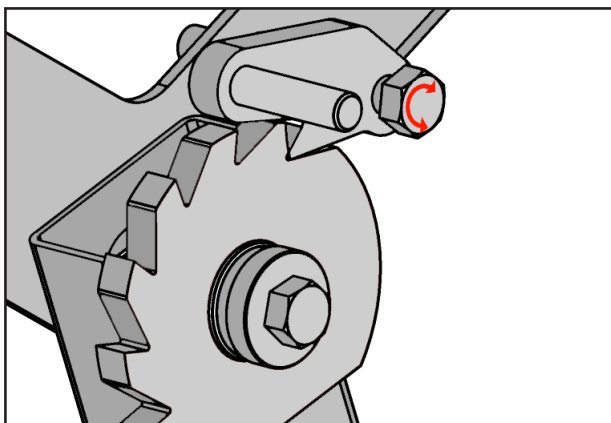

Figure 11 – Cradle fastened by locking lever.
2) Remove the latch shown in figure 11. Then, activate the electrical winch to lower the cradle until reaching such a height to comfortably place the grain bag on the lift (70 cm aprox).